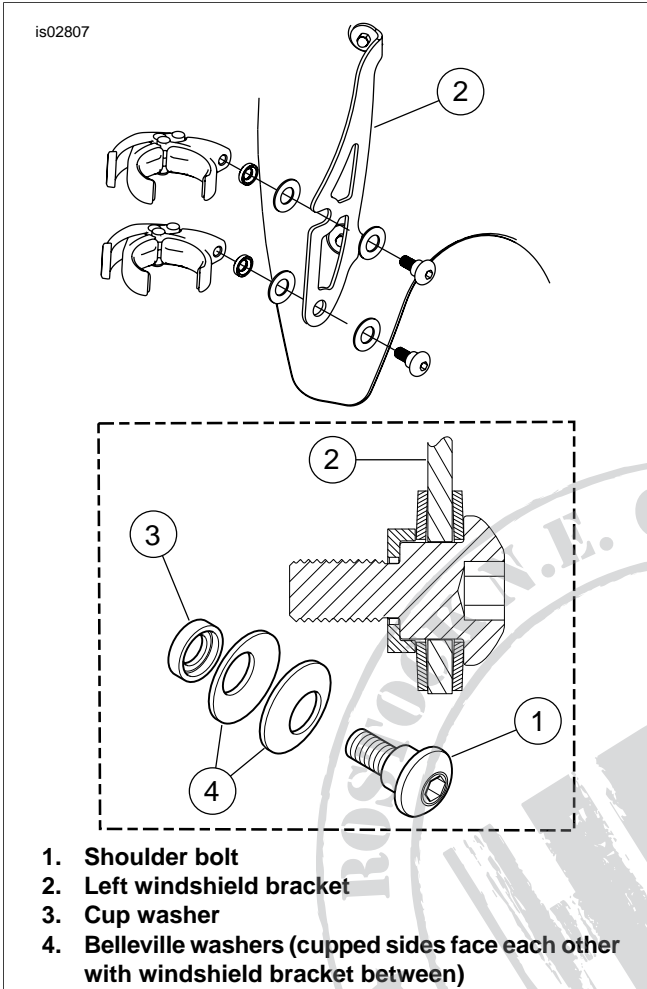

Figure 2. Windshield Mounting Clamp
2. See Figure 2. The windshield will require 4 clamps, the upper two mount locations are slotted in the windshield brackets and the lower two are thru holes. Separate the 4 clamps, shoulder bolts, cup washers, and Belleville washer hardware from their packaging.
3. See Figure 2. Take one shoulder bolt and one belleville washer and orient the belleville washer on the shoulder so the cupped side of the washer is facing away from the bolt head.
5. Using another belleville washer and the machined cup-spacer orient the belleville washer again with the "cupped" side of the washer facing the windshield bracket sandwiching it and the cup spacer's cup side facing the belleville washer. The complete stack of components is shown in Figure 2 and should be assembled as shoulder bolt, belleville washer, bracket, belleville washer, cup spacer, and clamp.
7. Assemble second hardware stack complete (orient the belleville washer again with the "cupped" side of the washer facing the windshield bracket sandwiching it and the cup spacer's cup side facing the belleville washer) as shown in Figure 2 and loosely thread shoulder bolt into clamp. Keep loose enough to spread Belleville washers apart to the width of the bracket.